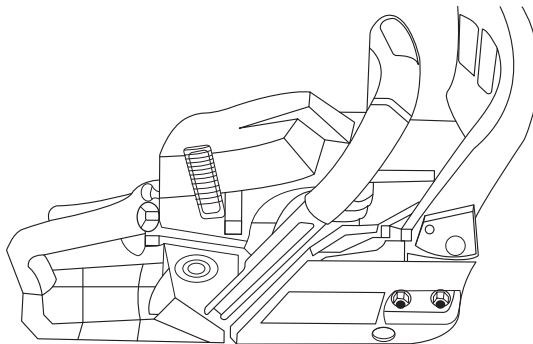

Fig. 41
5. Debris must be removed from the cylinder fins on a regular basis to reduce the risk of damage to the unit an personal injury from fire. Use compressed air, at 40 PSI or lower, to blow debris from the cylinder fins (Fig. 41).